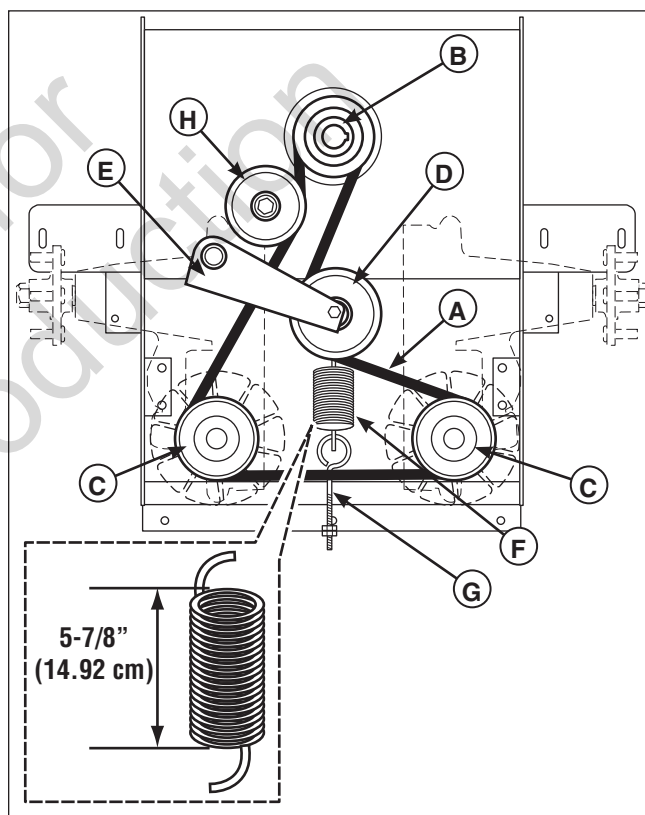

Figure 44. Hydraulic Pump Drive Belt Replacement
4. Loosen the nut on the spring anchor eyebolt (G, Figure 44) to release the majority of the belt tension. Use caution and remove the nut to completely release the tension.